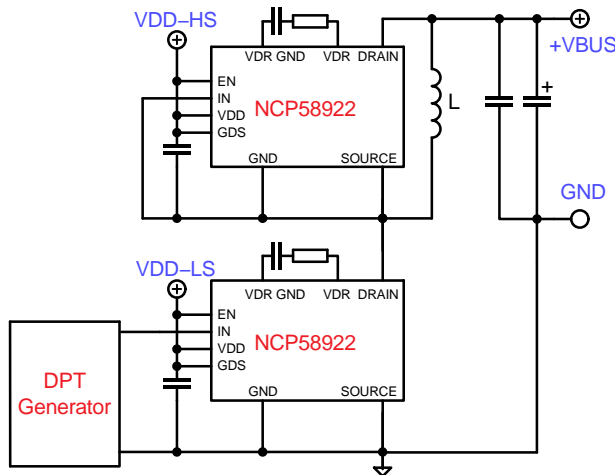
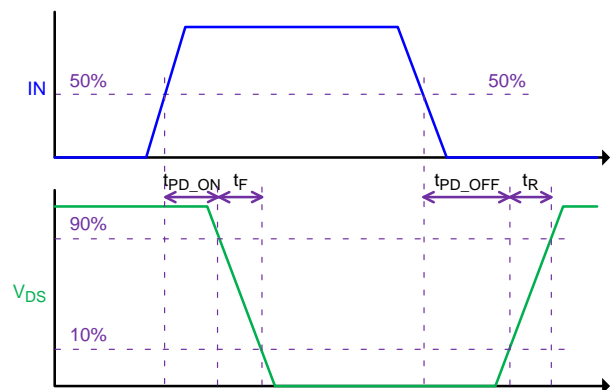

Figure 37. Half-bridge Stage Arranged as Double-pulse Tester Circuit
Figure 38. Measurement Reference for Determining Timing
14. Refer to Figure 37 and Figure 38.
A typical approach to determine timing parameters of switching devices is to test them in double-pulse tester or use double-pulse testing technique. The half-bridge is a basic switching structure adopted in a wide range of converter topologies, that is easy to convert into double-pulse tester. Figure 37 shows principle schematic diagram of circuit (double-pulse test) that is used to measure switching parameters. The low-side device NCP58922 is the part that actively switches. When the device is turned on, the Inductor current is built to the certain level. The inductor current for this switching interval is almost the same as Drain current and its level is basically related to +VBUS Voltage, Inductance, and turn-on pulse width (the initial current must be considered). When Low-Side device is turned-off, inductor current cannot be interrupted (or cannot change direction), so the high-side device NCP58922 naturally turns-on, operates in third quadrant and its function is the same as freewheeling diode which enables inductor current re-circulation. Operation in the third quadrant should be well considered to avoid generating excessive losses and thus device overheating. Dedicated sequence of pulses creates operating conditions that are sufficient for generating switching waveforms and measuring required parameters. The specific timing measurement is shown in. Figure 38.
Switch V_{DS} Voltage fall time. The first one component is the propagation delay of the driver from when the input goes high, measured at 50%, to when the GaN HEMT starts turning-on, while its V_{DS} voltage drops to 90% of +VBUS. The fall time is the time that takes for Switch V_{DS} Voltage to slew between 90 percent and 10 percent of +VBUS voltage. The R_{ON} (Turn-on) resistor value has significant impact on Turn-on slew rate while the Turn-on propagation delay influence is minor. The timing definition of the turn-off transition also has two components; Driver to Switch Turn-off propagation delay and V_{DS} Voltage rise time. Reference levels are the same, however difference lays in opposite order. For better explanation reference waveform is depicted in Figure 38.